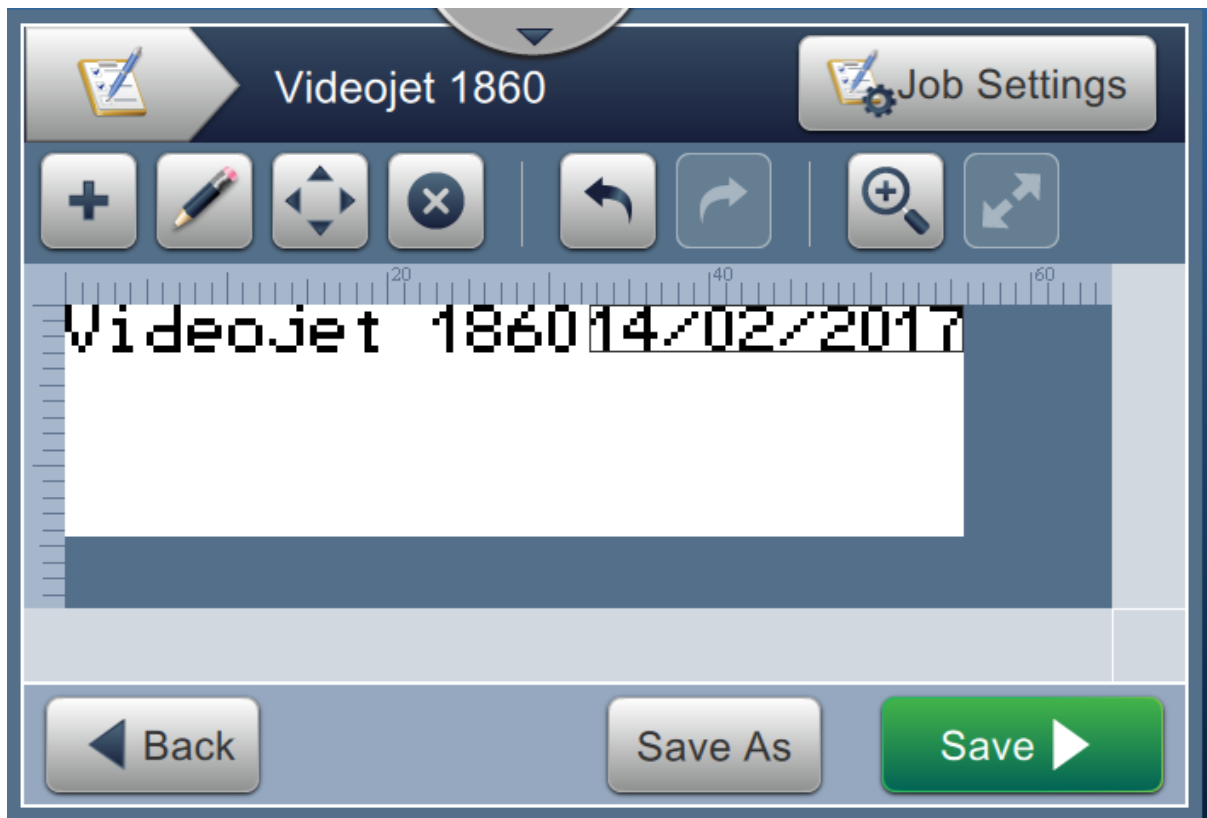

Figure 5-20: Date Field
21. Touch the  button to save the changes made. The date field is inserted on the job as shown in Figure 5-20.